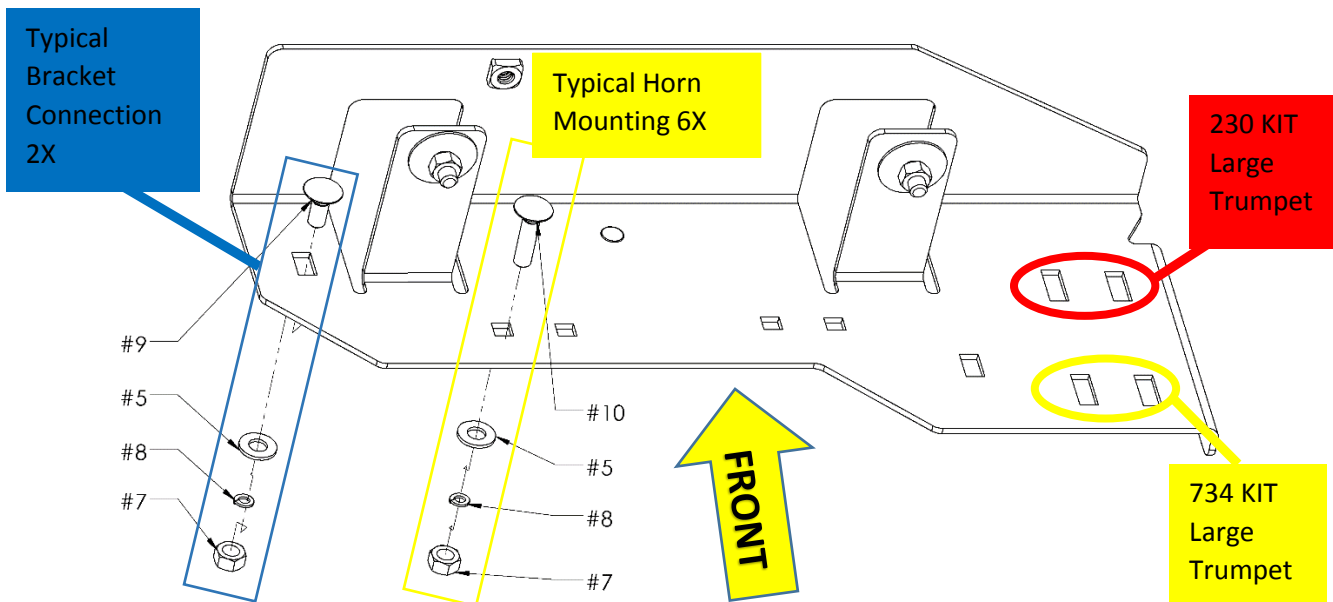

Figure 15 – TUNDRA-201 to TUNDRA-301 Hardware Connections; Exploded Views
10.4.3. Using hardware #5, #7, & #8 connect TUNDRA-201 to stud on Air Horn Bracket, as shown in Figure 15.
10.4.4. Connect TUNDRA-201 (Tank bracket) to TUNDRA-301 (Horn bracket) using hardware #5, #7, #8, & #9. See Figure 15 for hole positions.
- 10.7.2. Using hardware #5, #7, #8, & #10 mount Air Horn Drivers onto Horn Bracket (TUNDRA-301). Solenoid will be attached to Medium Air Horn Driver as shown circled in Figure 22 below; **ensure arrow on brass Solenoid is pointing toward Air Horn.** Hand tighten fasteners; see Figures 15 & 23 for reference.